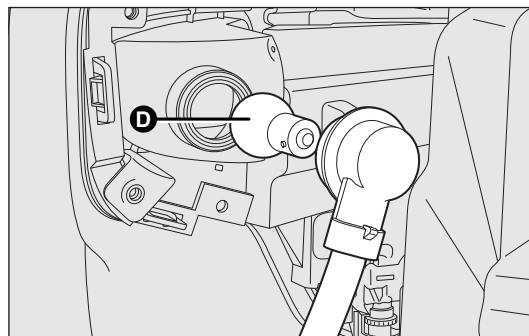

fig. 171
- ☐ remove the bulb D-fig. 171 by pushing it in gently and turning anti-clockwise ("bayonet" clamping), then replace it;